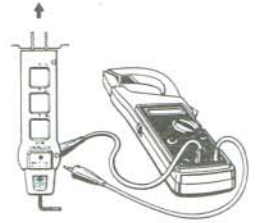

Fig. 11
- (3) When measuring AC voltage, connect the ENERGIZER to AC power outlet or appliance under test the same way as outlined for AC current measurement. With the test leads plugged into the VOLT and OHM terminals of the instrument, connect one test lead prod to the "VOLTLEAD" terminal on one side of the energizer and the other prod to the "VOLTLEAD" terminal on the other side (Fig. 11). This will permit easy voltage measurement up to 300 V AC without the trouble of cutting off the cord.